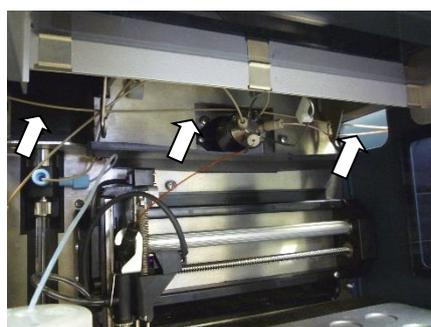

Figure 14. Picture of the autosampler with the waste tubing arranged through the valve compartment towards the waste bottle in the solvent tray.
- Lead the outlet tubing from the flow cell through the left upper hole in the side panel of the detector and through the autosampler (if present, see Figure 14) into the waste bottle.